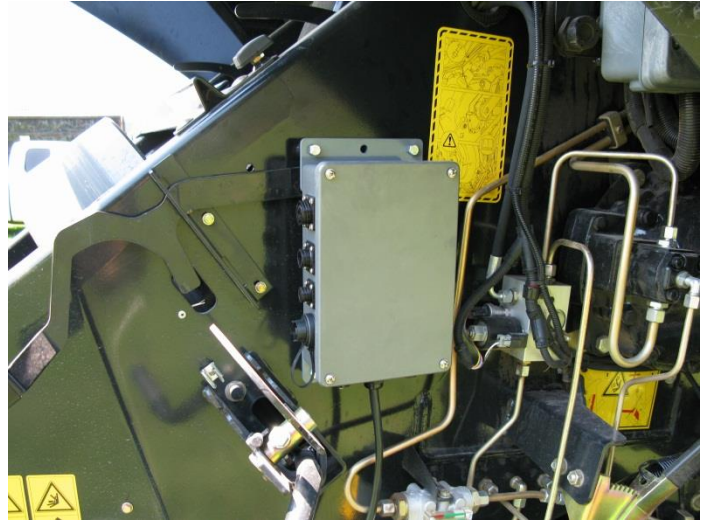

Figure 6
4. Mount the PIP with the display cable pointed down to the baler. Figure 6